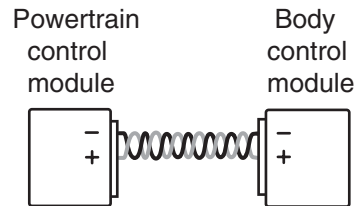

Figure 9–2 A twisted pair of wires forms the data bus that connects between nodes. © Cengage Learning 2012
Many multiplexed circuits use two wires to complete the data bus circuitry between all nodes, one for bus positive and the other for bus negative. This is also commonly known as a dual-wire (DW) bus. The positive and negative bus wires are commonly referred to as *Bus High* and *Bus Low*, or *Bus H* and *Bus L*. The negative wire connected between all nodes on the bus makes for a cleaner signal on the bus positive wire (as is also done with many ignition systems between the ignition module and the PCM). The two wires are then twisted together to minimize the effects of an induced voltage (Figure 9–2). This data